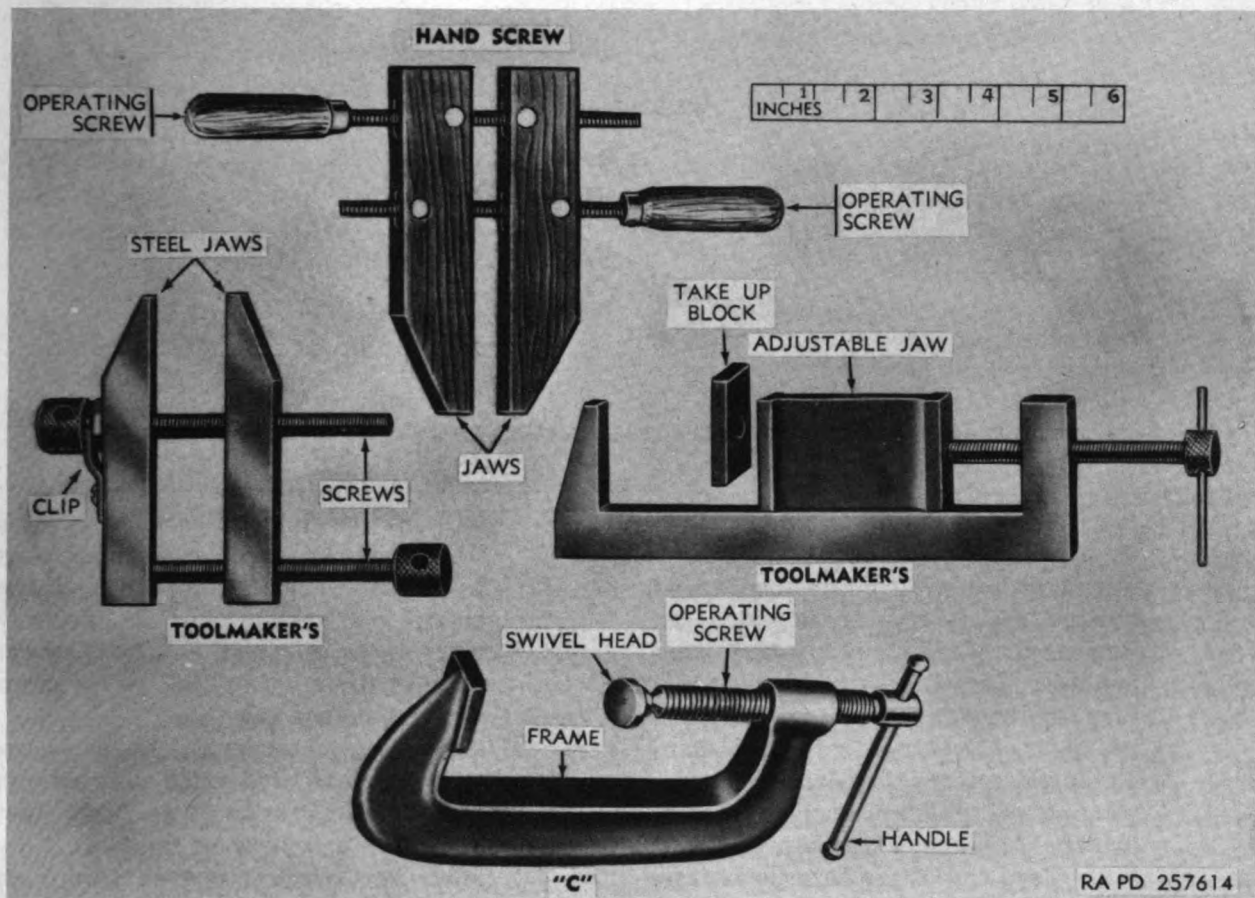

Figure 144. Types of clamps.
a. C-Clamps. A C-clamp (fig. 144) is shaped like the letter C. It consists of a steel frame threaded to receive an operating screw with a swivel head. They are made for light, medium, and heavy service in a variety of sizes.
b. Hand Screw Clamps. A hand screw clamp (fig. 144) consists of two hard maple jaws connected with two operating screws. Each jaw has two metal inserts into which the screws are threaded. These clamps are also issued in a variety of sizes.
c. Toolmaker's Clamps. One type of toolmaker's clamp (fig. 144) is similar to the hand screw clamp, except that the jaws are made of forged steel. The screws pass through one jaw and thread into the opposite jaw. One jaw is kept from sliding down the screw by means of a clip which slips under the knurled head of the screw. The other screw, farthest from the clamp opening, is threaded through one jaw and enters a shallow bearing hole in the other. These clamps are issued in $1\frac{1}{4}$ -, $2\frac{1}{2}$ -, and $3\frac{1}{2}$ -inch capacities. Another type of toolmaker's clamp has one adjustable jaw and uses takeup blocks. The takeup blocks are slipped on and off the end of the adjustable jaw. The clamp